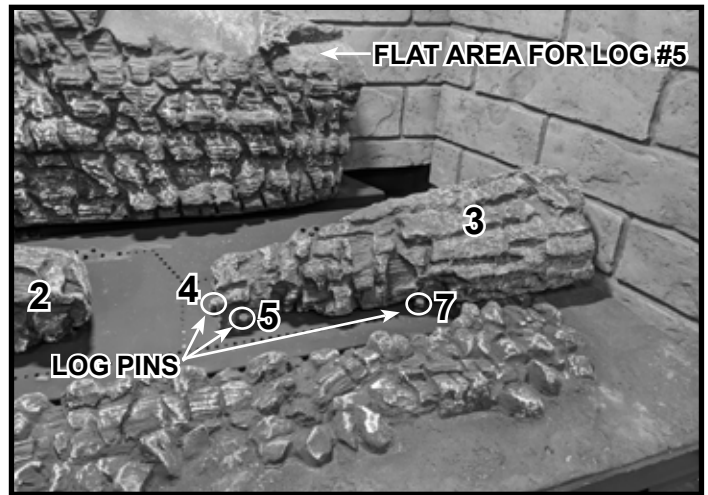
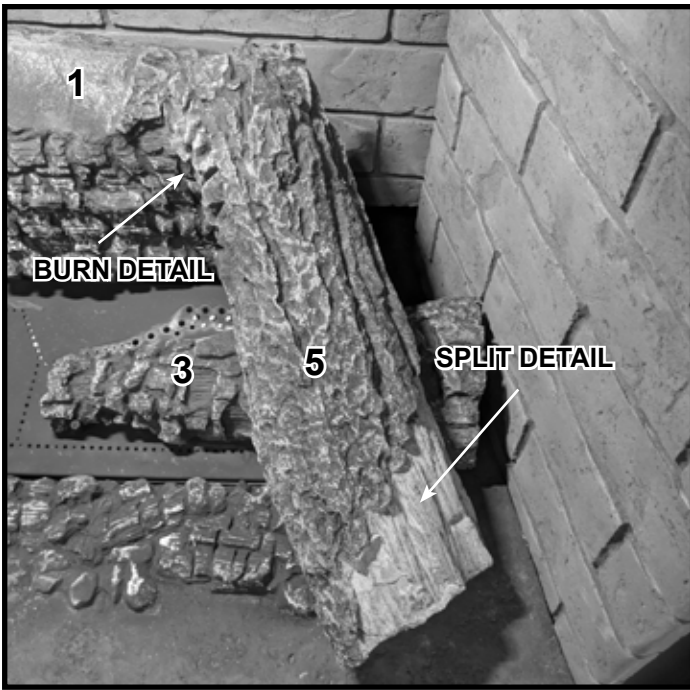
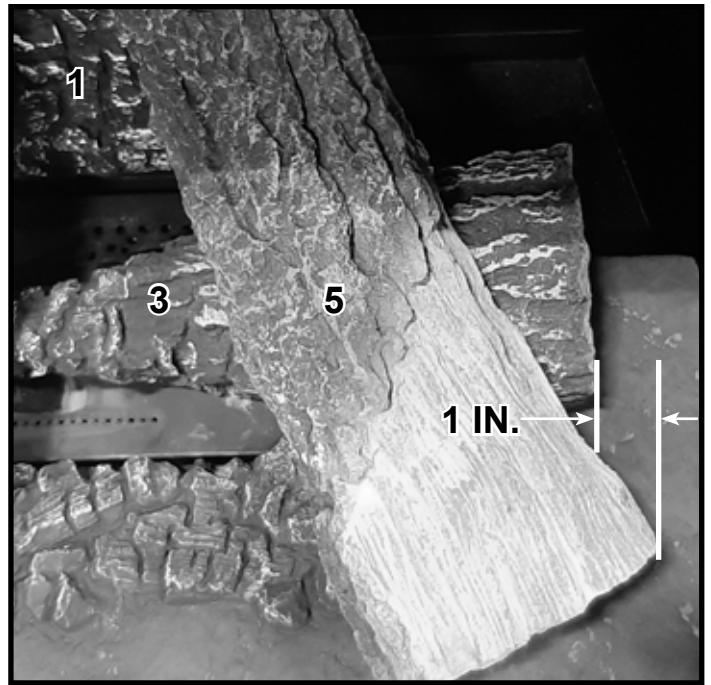

Figure 7 Position Log #3
Figure 9 Place Log #5
Figure 10 Log #5 Placement Detail
**Log #3:** Place Log #3 using the three log pins as shown in Figure 7. The flat side of the log is placed face down on the burner.
**Log #5:** Place the end of Log #5 that has the burn detail on Log #1 in the flat area shown in Figure 7. The end showing the split detail is placed as shown in Figure 9 and Figure 10. When properly placed, the bottom right corner of Log #5 extends past the right end of Log #3 by one inch. See Figure 10.